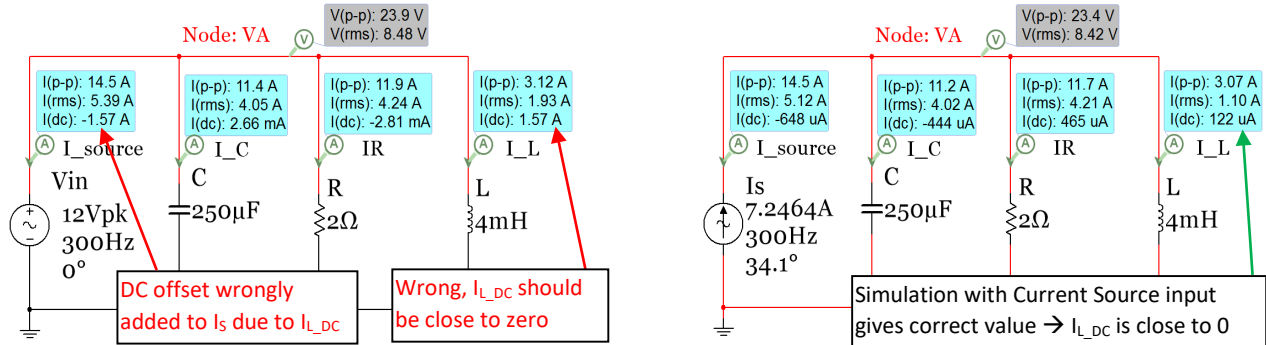
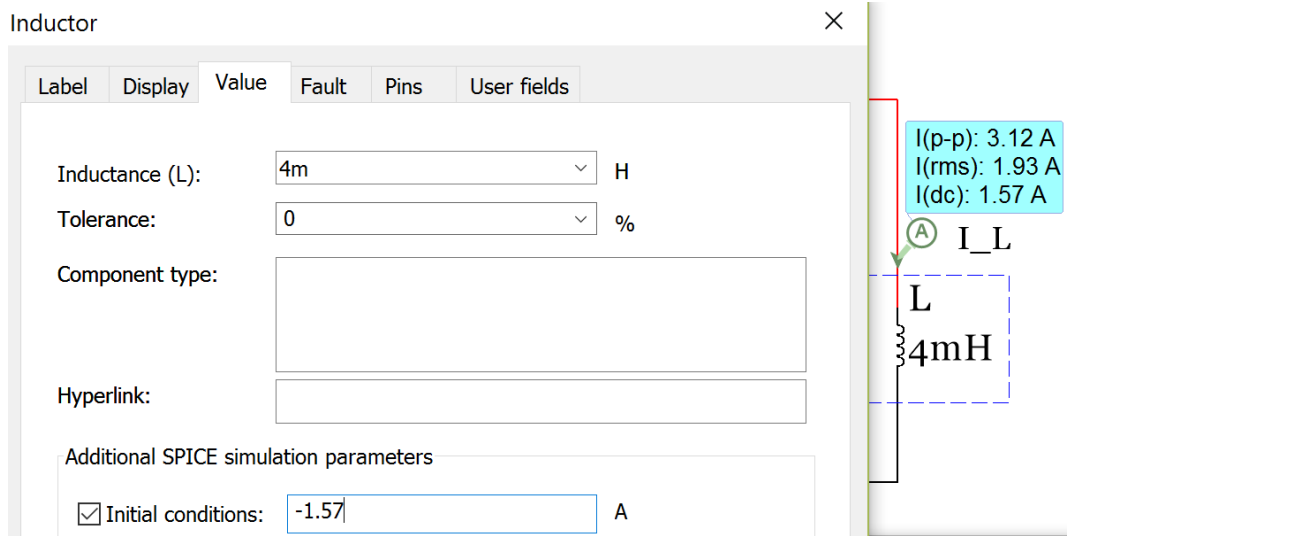

Figure 3.14: Parallel circuit in Example 3.7 with AC Voltage source (Left) and AC Current Source (Right).
Figure 3.15: Inductor dialogue box to enter the DC offset as the initial condition.
The reason the RMS  $I_s$  and  $I_L$  don't match the calculations is due to the DC offset that is wrongly included in the simulation as shown in Figure 3.14 (this link gives more info). Here are some options to avoid this error.
- 2) Calculate  $I_s$  and use a current source instead of a voltage source. There is no DC offset in Figure 3.14.
All of the voltages and currents have been calculated above and the magnitudes were verified in Multisim. To verify the phase the oscilloscope is needed. To remove the DC offset of the inductor, method 3 described in Figure 3.14 will be used. Figure 3.15 shows the dialog that comes up when you double click on the inductor. Since the DC offset was measured to be 1.57A, a value of -1.57A is entered into the initial condition box to correct for the DC offset. Figure 3.16 (Left) shows the plot of  $V_{in}$  and  $I_S$  for the initial circuit without modifying the initial condition of the inductor. Due the DC offset the peak value of  $I_S$  is measured to be 8.738 A which is about 1.5 A higher than the calculated value of  $I_{S\_pk}$  (7.2464 A). In the right plot of Figure 3.16 the initial condition of the inductor is included and the DC offset is removed from both  $I_L$  and  $I_S$ .